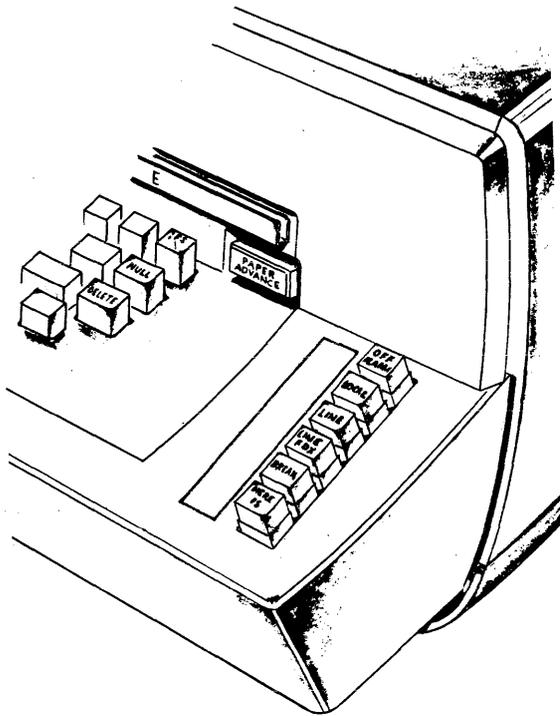

Figure 14 - Control Console for ESU Without Modem
4.04 The EIA and current interface has a six-button key switch that mounts at the right side of the console, for the operator control and signaling, refer to Figures 14 and 15.